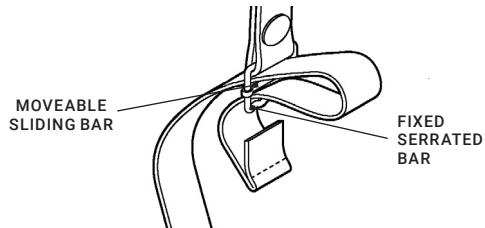

FIGURE 3-2. LACING THE SLIDING BAR BUCKLES
1. Thread the strap from the inside of the buckle over the moveable sliding bar (Figure 3-2). Thread the strap back through the buckle; this time, thread it under the moveable sliding bar and over the serrated part of the buckle.